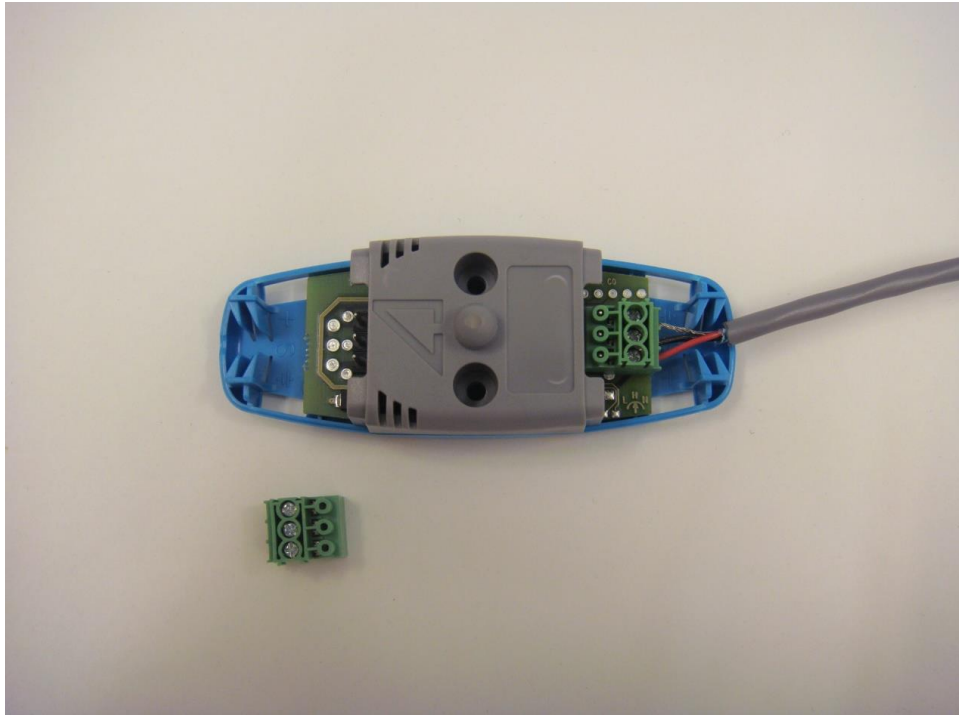

Figure 4-10: AQ01 sensor connection step 5.
5) Attach the connector back to the sensor PCB. See Figure 4-10.